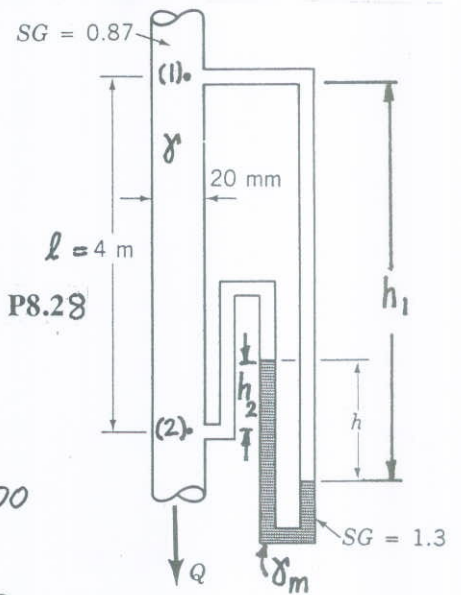

FIGURE P8.28
8.28 Oil of  $SG = 0.87$  and a kinematic viscosity  $\nu = 2.2 \times 10^{-4} \text{ m}^2/\text{s}$  flows through the vertical pipe shown in Fig. P8.28 at a rate of  $4 \times 10^{-4} \text{ m}^3/\text{s}$ . Determine the manometer reading,  $h$ .